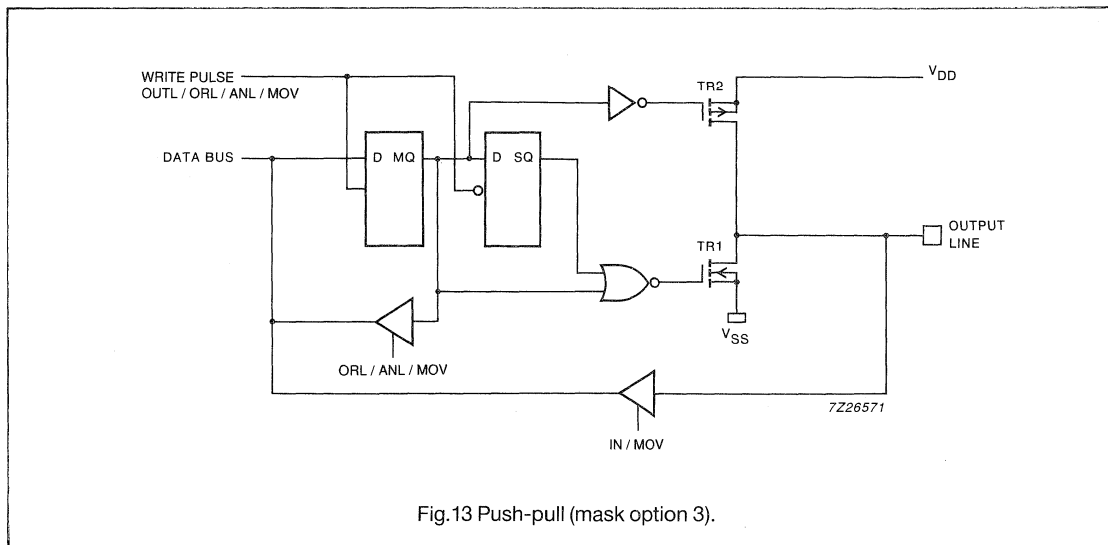

Fig.13 Push-pull (mask option 3).
- Option 3 Push-Pull: outputs can sink or source 2 mA (typ.) at  $V_{DD} = 3$  V. Push-pull lines may not be used as inputs (Fig.13).